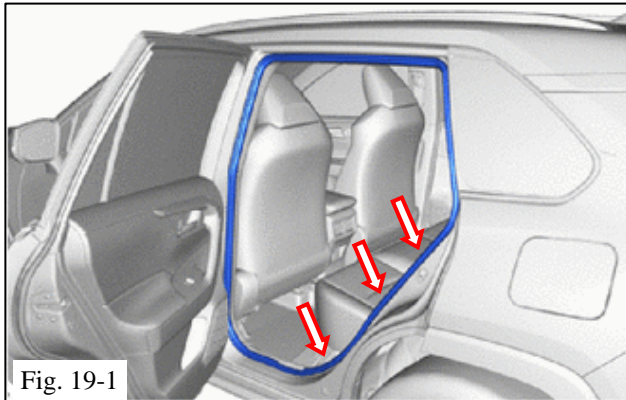

Fig. 19-1
- (a) Partially remove Weather Strip in RR door openings LH and RH along C-Pillar trim (Fig. 19-1).